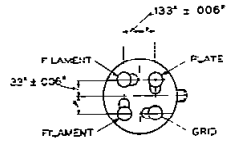

FIG. 2
**Mounting Positions**—Either vertical or horizontal. If mounted in a horizontal position the plane of the filament, which is indicated in Figure 2, should be vertical.